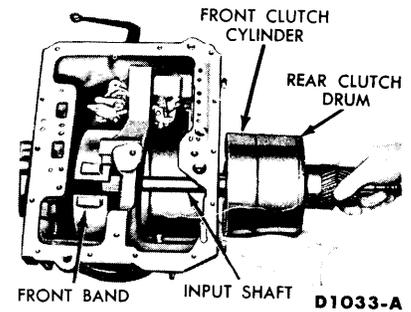

FIG. 5—Input Shaft and Clutch Removal or Installation
16. Exert enough pressure on the end of the input shaft to hold the clutch units together. Then remove the center support, front and rear clutch assemblies as a unit (Fig. 5).